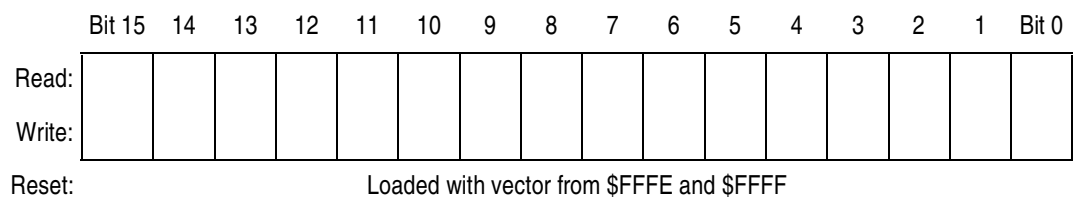

Figure 2-5. Program Counter (PC)
The program counter (PC) shown in **Figure 2-5** is a 16-bit register that contains the address of the next instruction or operand to be fetched.